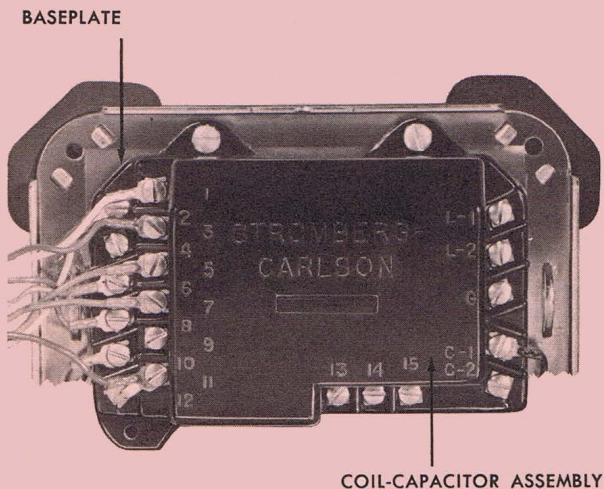

Figure 6. Coil-Capacitor Assembly.
(4) *Coil-capacitor assembly* (fig. 6). The coil-capacitor unit in the 1543 or any of the 1500 Series Telephone consists of an induction coil, resistor, and talking capacitors housed in a plastic case and held in place on the baseplate by three screws. Screw terminals on either side of the case are clearly marked, showing proper connections for the line and handset cords as well as the hookswitch, ringer, and dial.